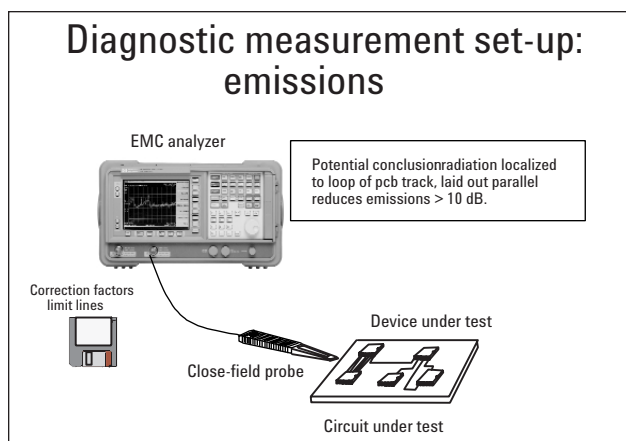

Figure 16. Diagnostics setup interconnection
1. Connect the diagnostic tools as shown in Figure 16 below.